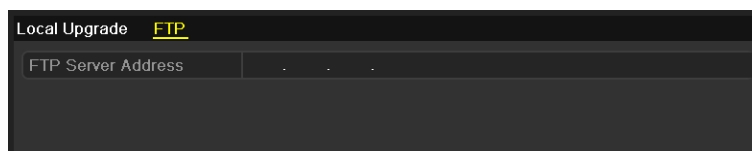

Figure 15. 7 FTP Upgrade Interface
2. Click the **FTP** tab to enter the local upgrade interface, as shown in Figure 15. 7.